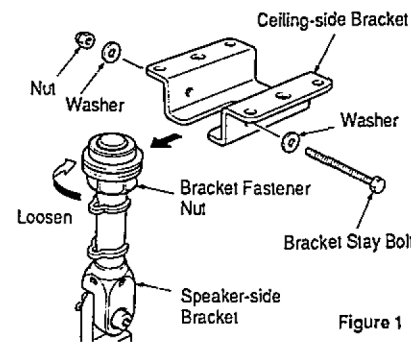

Figure 1
**1** Separate the speaker-side bracket from the ceiling-side bracket by removing the bracket stay bolt and loosening the bracket fastener nut. (Figure 1)